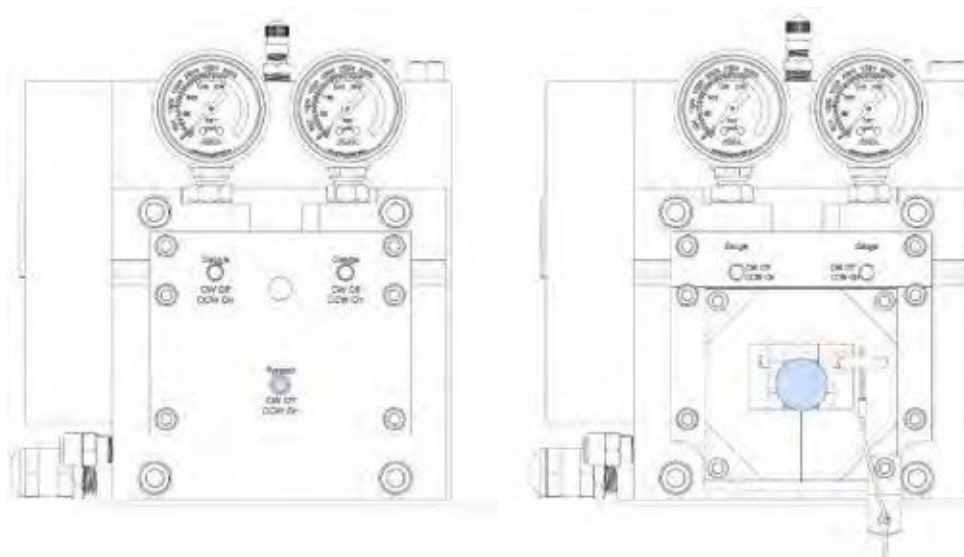

Figure 22: Bypass Valve Locator
2. Open the manual bypass valve to relieve internal pressure. See Figure 22 for details.